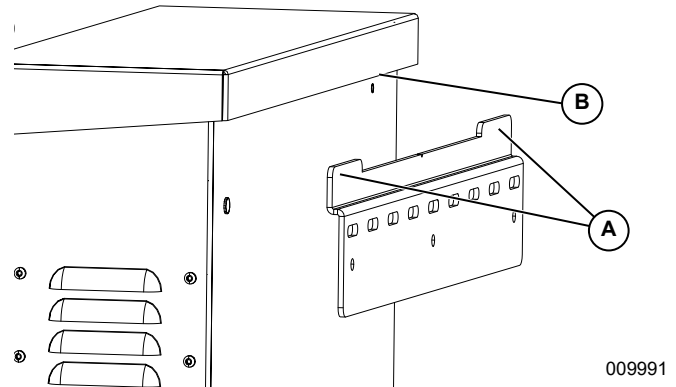

Figure 4-3. Mounting Inverter onto Bracket
3. See Figure 4-3. Insert mounting bracket tabs (A) into inverter body slot (B).
NOTE: Figure 4-3 is for illustration purposes only.